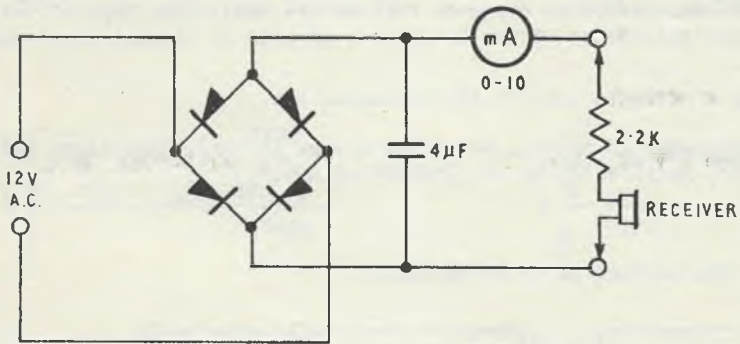

FIG. 3.
STEP 5. Connect the circuit as shown in Fig. 3.